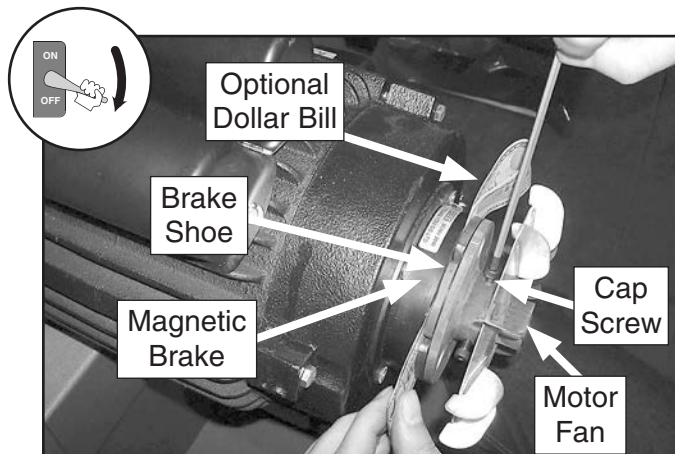

Figure 109. Adjusting distance between magnetic brake and brake shoe.
- Remove the motor fan cover, then loosen the cap screws securing the motor fan and brake shoe (see **Figure 109**).